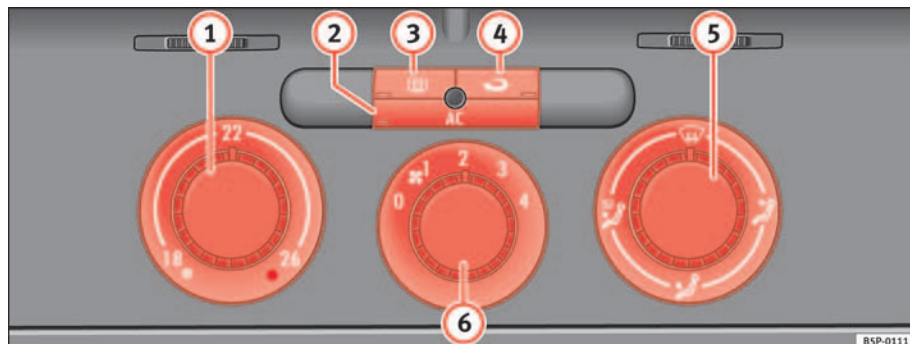

Fig. 124 On the dash panel: Climatic controls
- Turn the temperature selector ⇒ fig. 124 ① clockwise to select the required temperature.